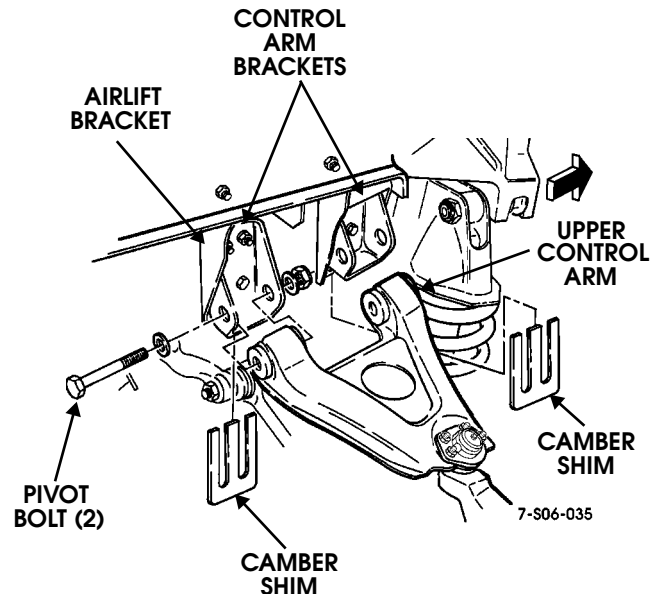

Figure 6-48: Camber Shim Location (Passenger Side Front Shown)
2. Remove upper control arm pivot bolts (Figure 6-48). Retain bolts and washers but discard nuts if they are lock-type.
3. Loosen bolts that attach upper control arm brackets to airlift bracket and frame (Figure 6-48). Do not remove the bolts; just loosen them.
Camber adjustment applies to the front and rear wheels equally. It is controlled by shims installed between each upper control arm bracket and the airlift bracket (Figure 6-48).
3. Remove upper control arm pivot bolts (Figure 6-48). Retain bolts and washers but discard nuts if they are lock-type.
5. Adjust camber angle by changing shim between each control arm bracket and airlift bracket (Figure 6-48):